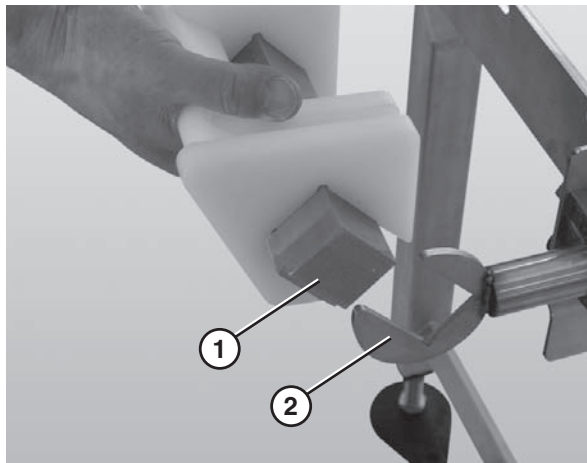

Figure 26
3. Attach the nose bar transfer post (Figure 26, item 1) to the nose bar idler shaft hands (Figure 26, item 2).